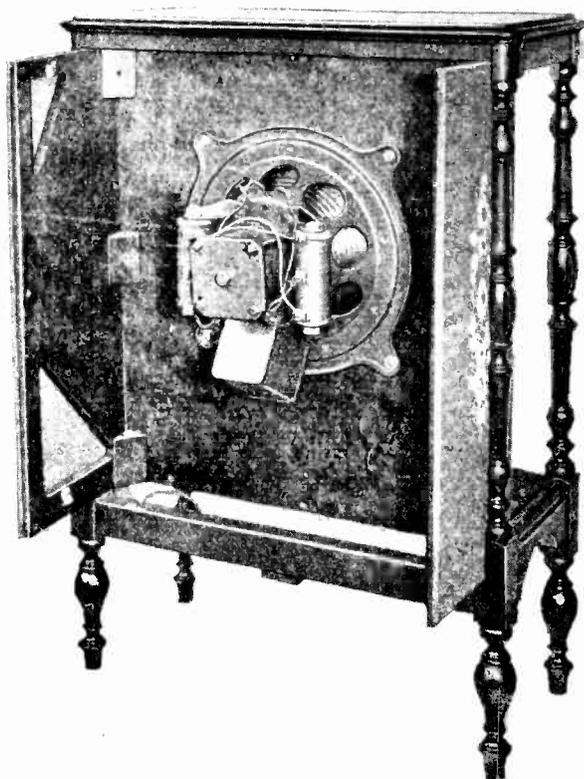

Figure 6—Baffle plate partly removed
- (c) Remove the eighteen wood screws (Figure 5) that hold the baffle and side pieces to the cabinet frame. The frame may now be pulled through the rear opening (Figure 6). The grille cloth is held in place by means of tacks. Remove the tacks and grille cloth and stretch the new cloth in place. Replace the tacks.